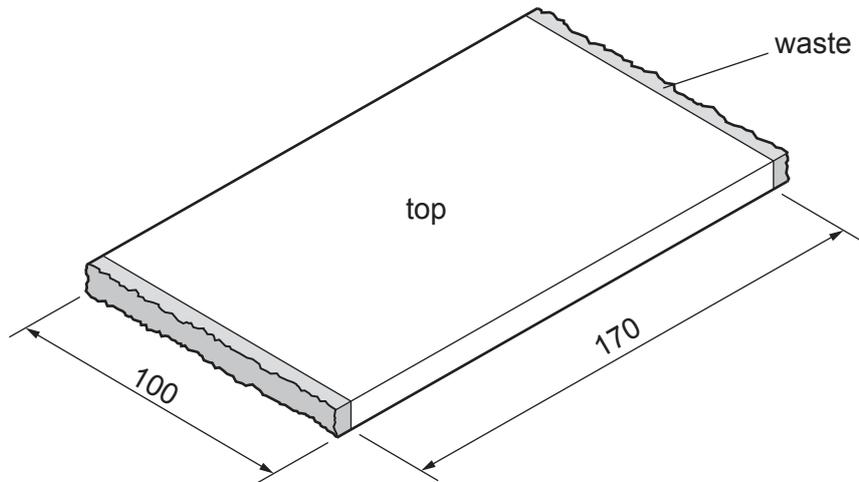

Fig. 12.2
- (b) Fig. 12.2 shows the top of the coin box marked out and cut to length. A small amount of waste remains and must be removed to make the ends flat and square.